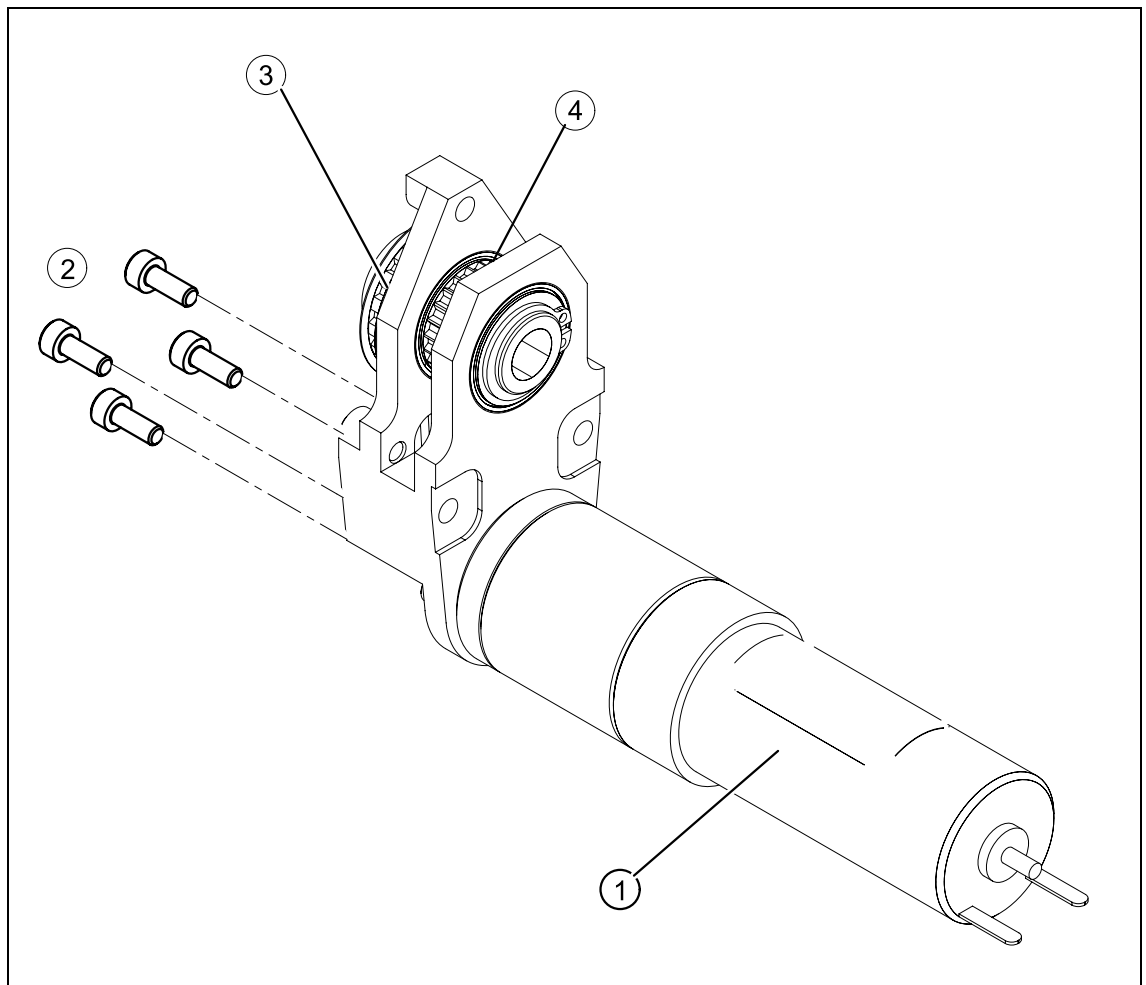

Fig. 6.8.4 *Exchanging the DC geared motor of the relevant PCB conveyor drive*
- Working from the fixed exterior side of the conveyor, undo the screws fastening the DC geared motor (4 hexagonal socket-head screws, see Fig. 6.8.4).
- Fix the DC geared motor with the 4 M3 hexagonal socket-head screws (see Fig. 6.8.4).
(4 hexagonal socket-head screws, see Fig. 6.8.4).